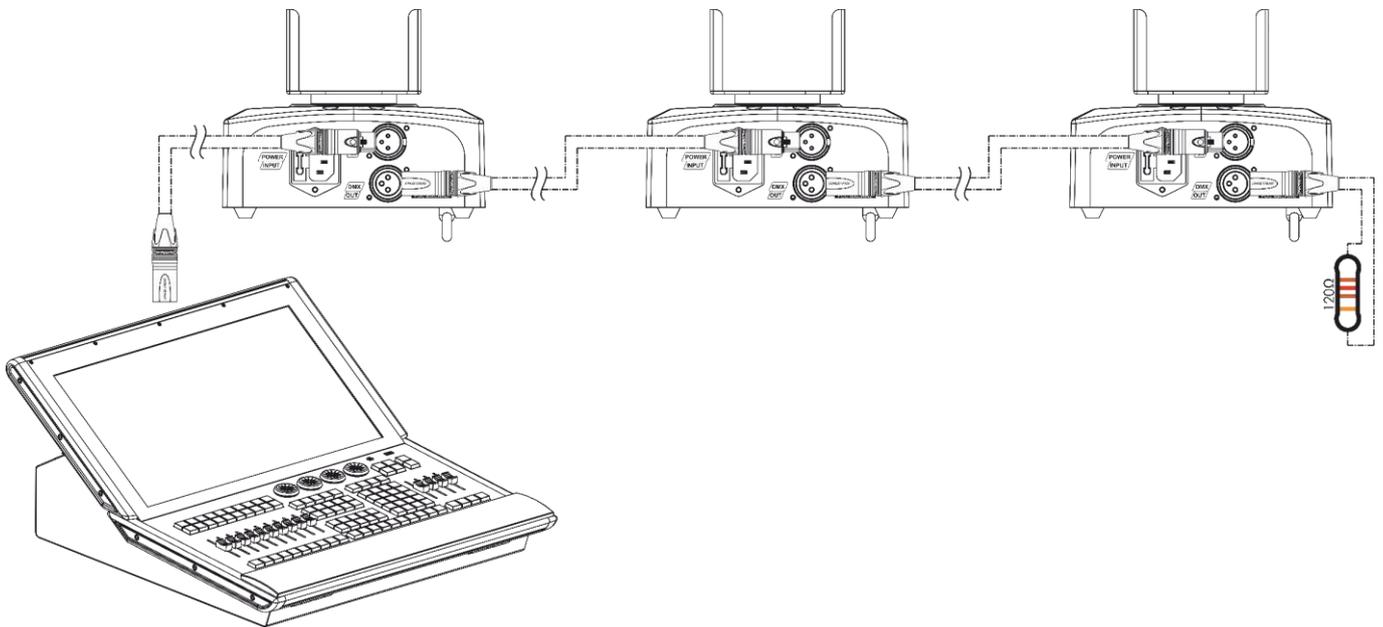

Fig. 06
- 04) Link the units as shown in Fig. 06. Connect the first unit's DMX "out" socket with the second unit's "in" socket, using a DMX signal cable. Repeat this process to link the second, third, and fourth units.